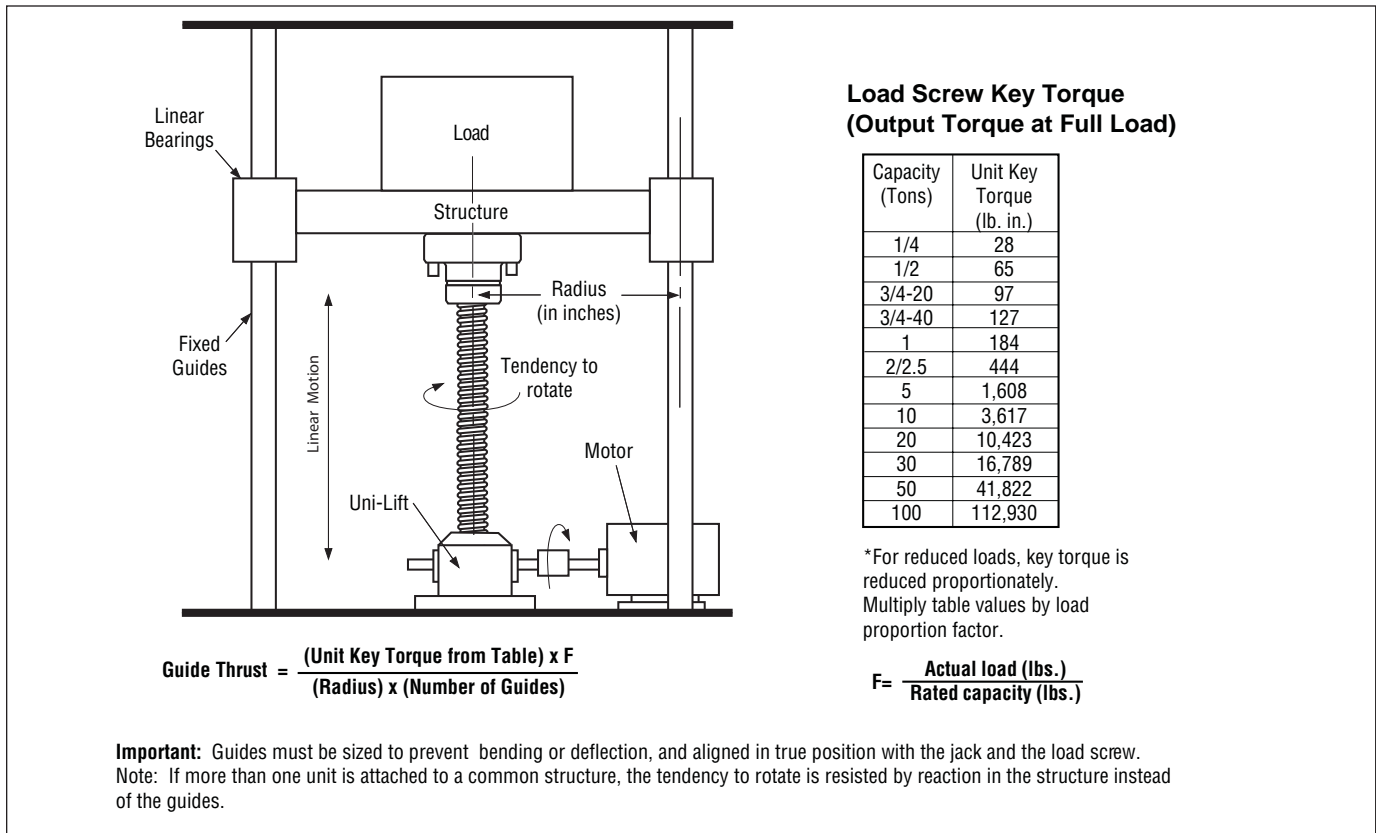

Figure 3, Using a linear bearing arrangement to secure the load in applications where only one actuator is used. (typical)
- In applications where only one Uni-Lift® actuator is used, a linear bearing arrangement (user provided) may be required to prevent the load and load screw from rotating. See Figure 3.